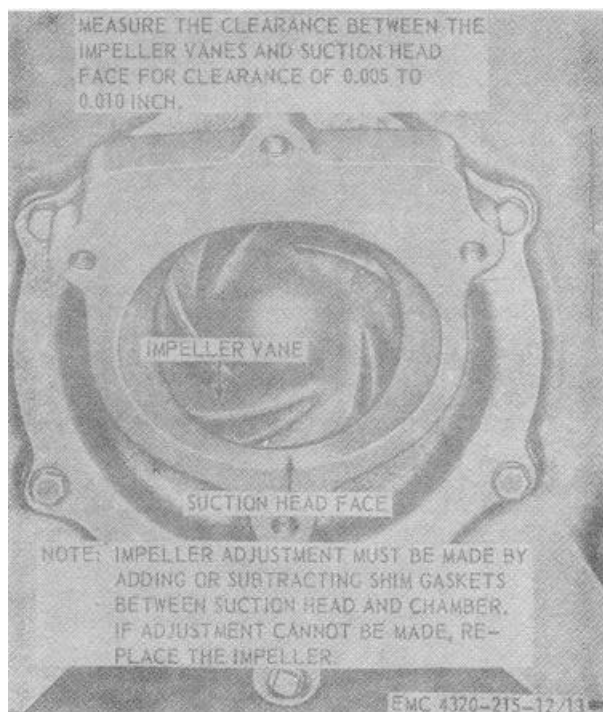

Figure 13. Impeller clearance adjustment.
- d. Adjust the impeller as shown by figure 13.